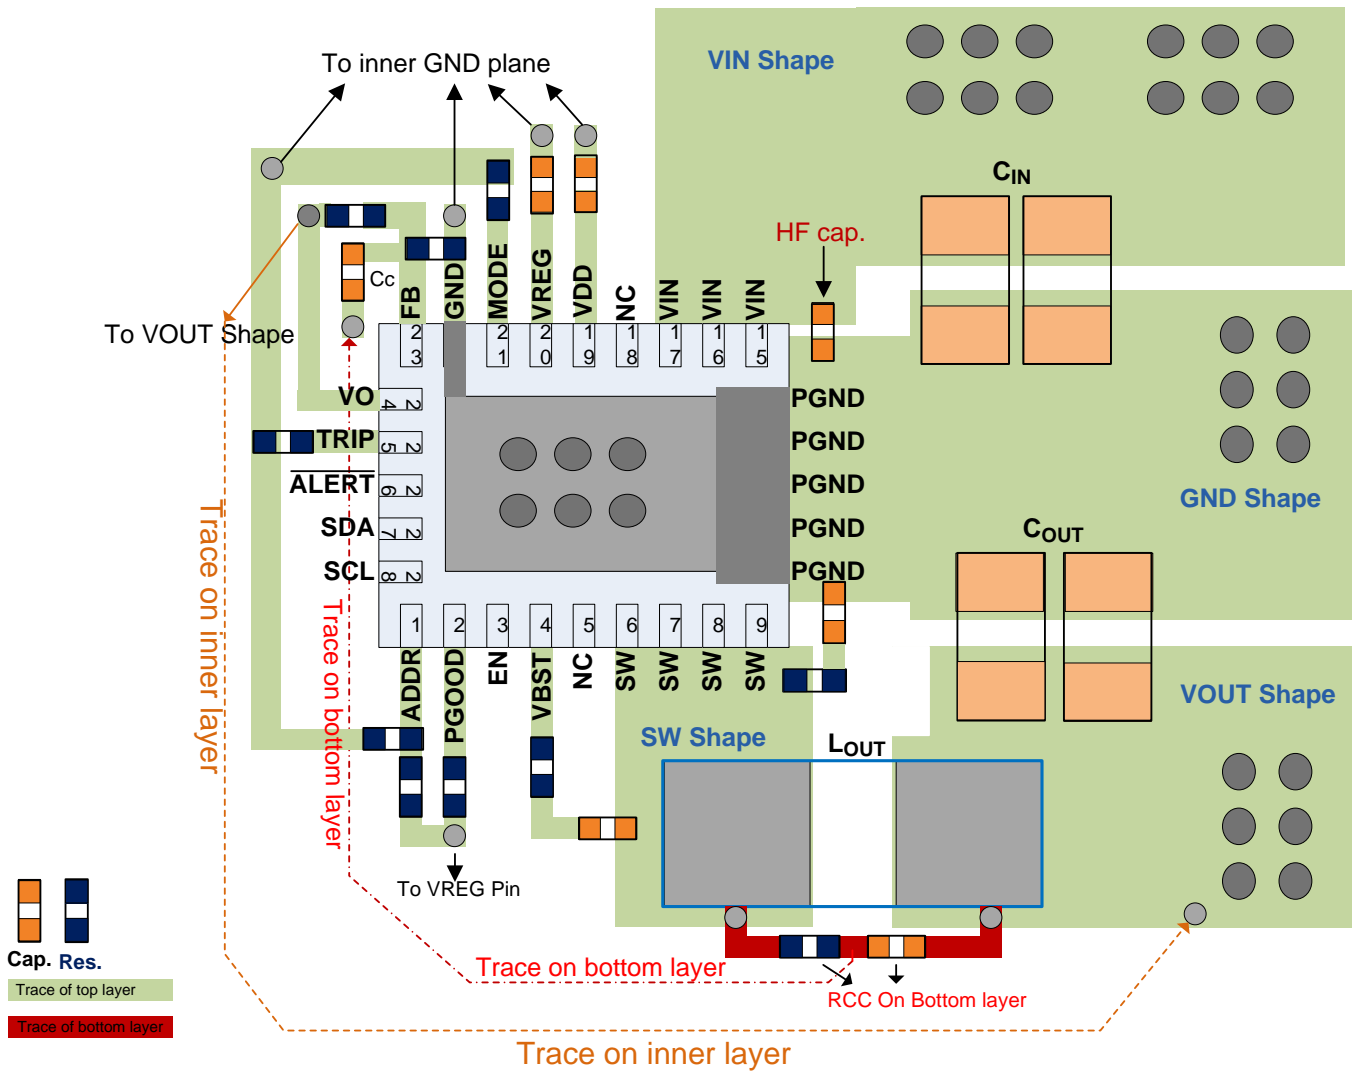

图 54. Layout Recommendation
- See Figure 54 for the layout recommendation.